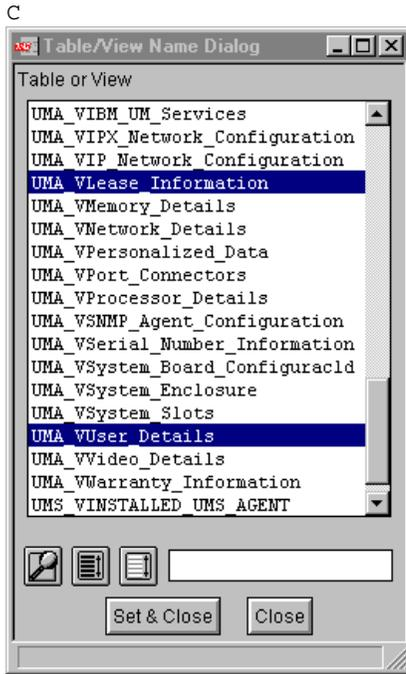

Figure 124. Choosing a specific table
3. Click  in the Table/View Name section. Figure 124 appears: